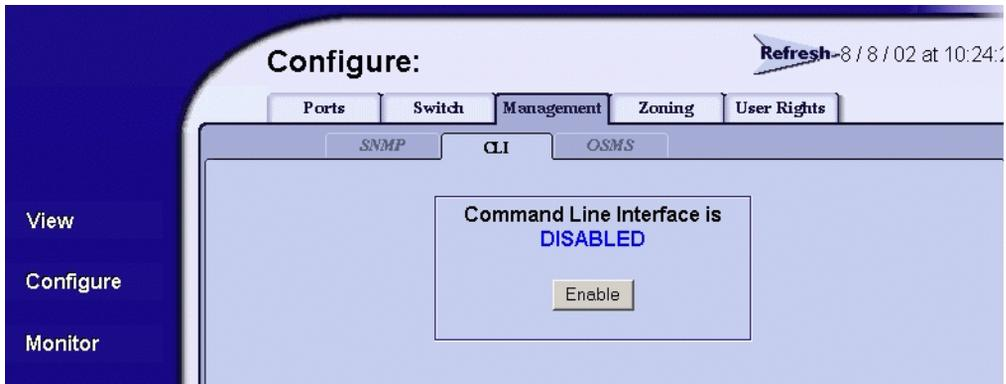

Figure 2–11: Management page—CLI tab
1. At the **Configure** window, click the **CLI** tab. The **Management** page displays with the **CLI** tab selected, as shown in Figure 2–11.